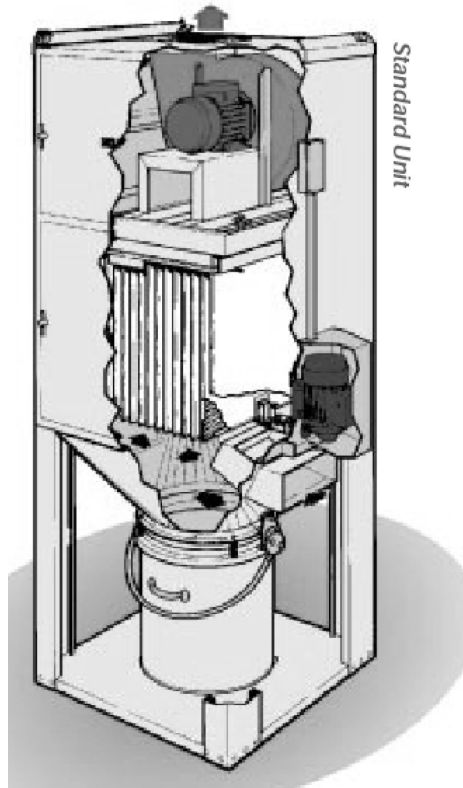

FIGURE 6-15. Bag cleaning by shaking action with airflow stopped
**6.3.11 Shaker-Style Filters.** Accumulated dust is removed by shaking the entire bag assembly once the system fan is de-energized (see Figure 6-15). Shaker-style filters are therefore not continuous-duty and are typically used on processes where the local exhaust ventilation system can be turned off during production breaks and between shifts. Air typically moves from inside the bags to outside and therefore does not require a metal support cage. Filter pressure will steadily increase during use and will recover when the baghouse tubes are shaken. Extremely fine dust and fumes that do not agglomerate well and that do not fall well in an updraft style baghouse can do very well in shaker-style collectors. Therefore, re-entrainment is not an issue on shaker-style collectors.